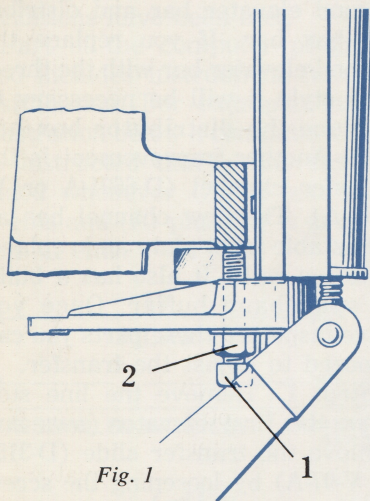

Fig. 1
Step 2. Now lift the second elevator up out of the way and check the lineup of the first elevator to the transfer channel. The first elevator jaw should be slightly higher than the transfer channel (approximately $.010''$). This adjustment is made by the bolt (No. 1, Figure 1)
clearance on both top and bottom and sides of the mat in relation to the second elevator bar. Referring back to the screw (No. 1, Figure 1) adjust the first elevator either up or down until you have equal clearance vertically. If the mat does not seem to set properly it may be because the lateral adjustment of the second elevator bar has not as yet been set. Adjust the front plate on the transfer channel on Linotype or the second elevator post on Intertype until you feel there is equal space on both sides of the combination. Recheck the vertical adjustment and when you are sure this is right, lock the nut (No. 2, Figure 1). Recheck the lateral clearance to be certain the second elevator bar looks centralized to the matrix combination.